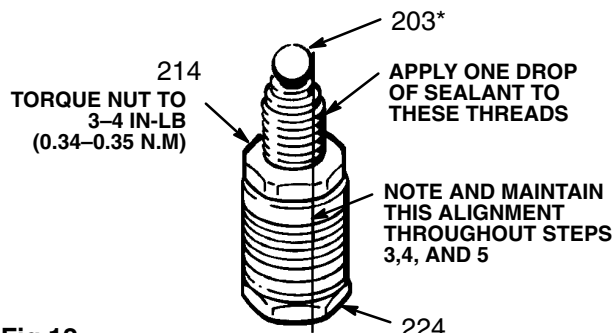

Fig 12
- Tighten the packing retaining nut (214) onto the piston valve (224) and torque to 3–4 in-lb (0.34 – 0.35 N.m). See Fig 12.
**NOTE: NOTE THE ALIGNMENT** of the piston (224) to the nut (214). Maintain this alignment throughout Steps 2, 3 and 4.
- Apply *1 drop only* of sealant, supplied with the repair kit, to the piston valve threads. Place the small ball (203\*) on the valve. See Fig 12. Hand tighten the valve into the rod (223) just until the nut contacts the rod. Place the flats of the displacement rod in a vise.